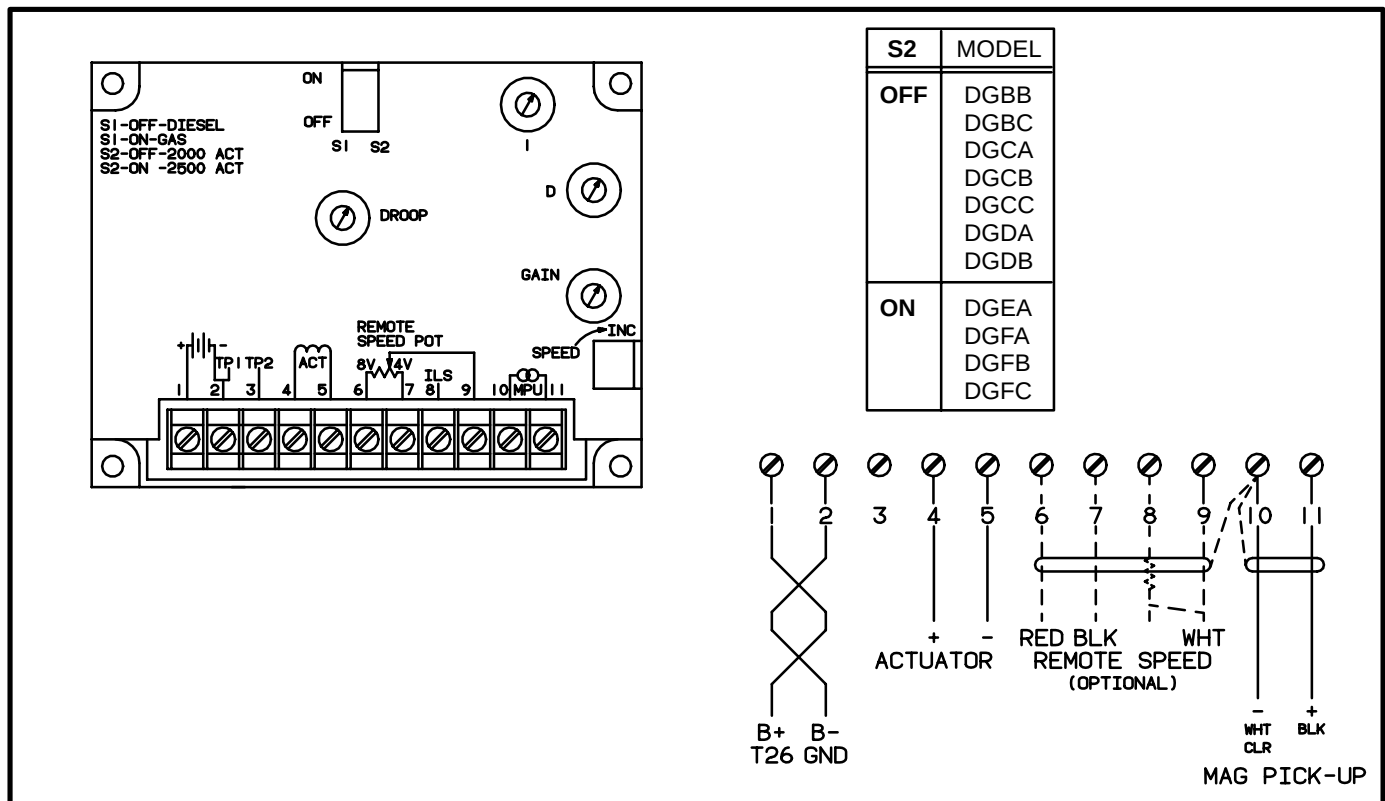

FIGURE 8-2. GOVERNOR CONTROLLER (TYPE A)
If necessary, wire the controller according to Figure 8-2 and install the magnetic speed pickup unit as noted in the following subsection. Then adjust the governor controller as follows:
2. Set selector switch **S2**, on the controller to the appropriate position (see Figure 8-2).